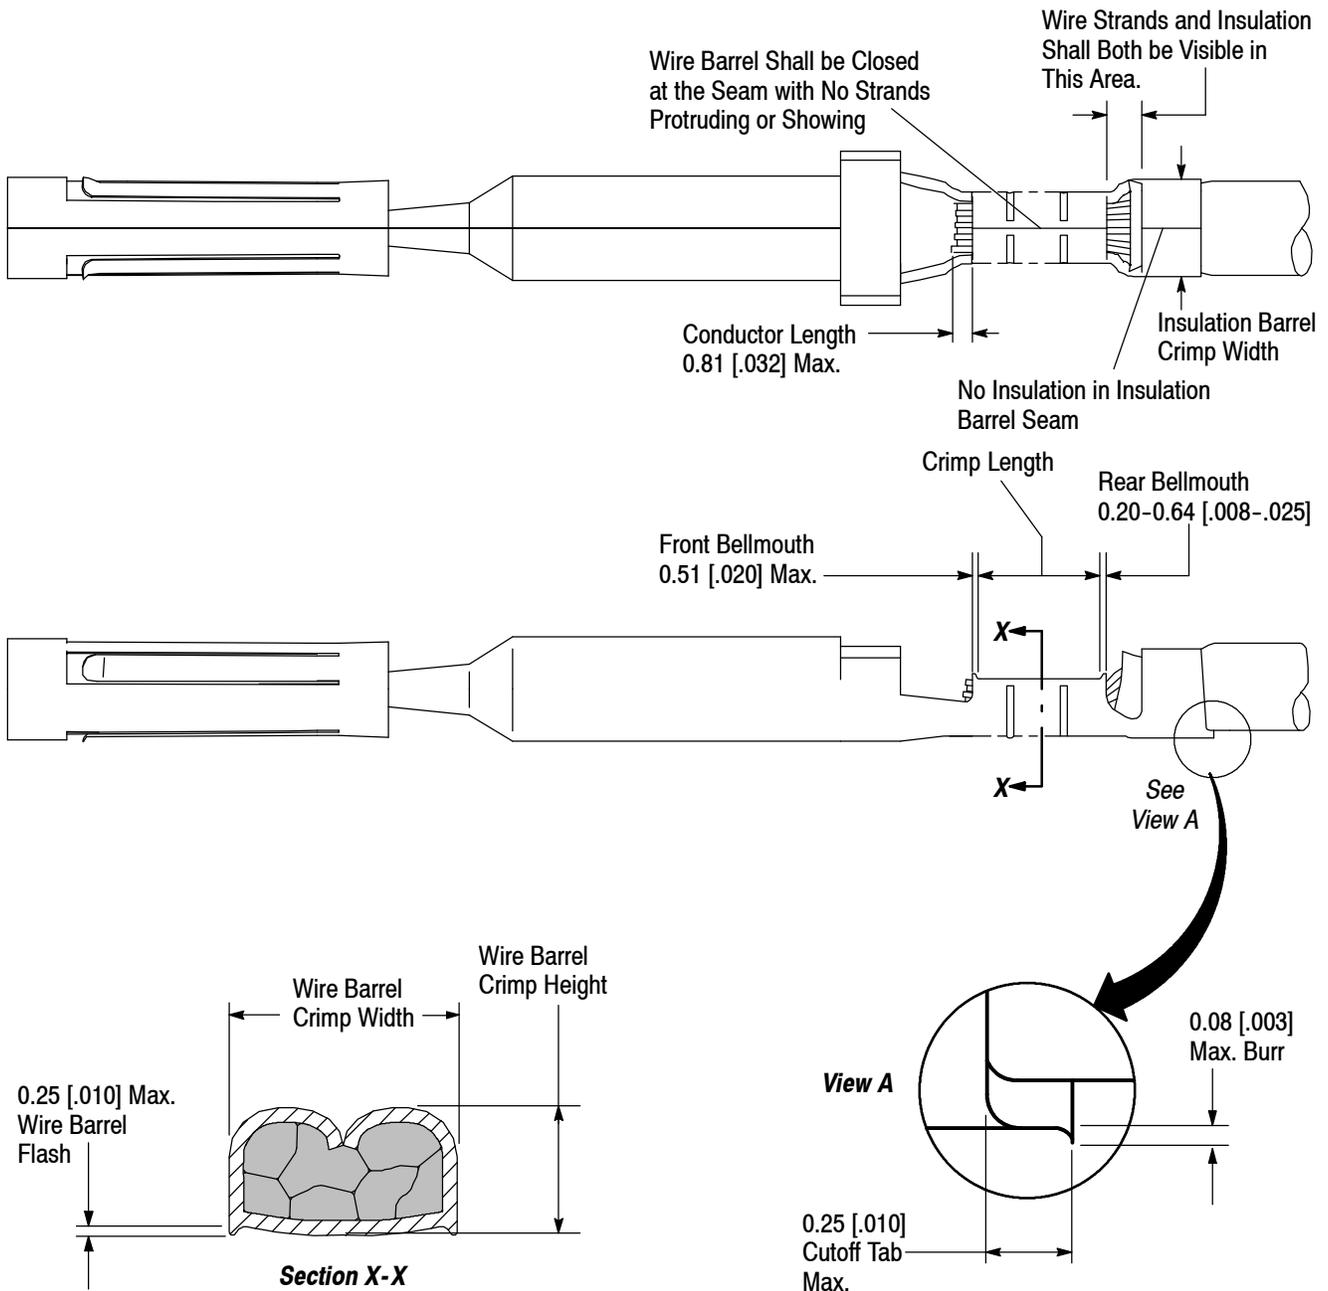

Figure 3
The contact must be crimped onto the wire according to instructions packaged with applicable tooling. After crimping, the contact should appear as shown in Figure 3.
For optimum crimp effectiveness, the crimp must be within the area shown in Figure 3 and must meet the crimp dimensions provided in Figure 2. Effective crimp length shall be defined as that portion of the wire
Front and rear bellmouths shall be evident and conform to the dimensions given in Figure 3.
The cutoff tab shall be cut to the dimensions shown in Figure 3.
The cutoff burr shall not exceed the dimensions shown in Figure 3.
The wire barrel flash shall not exceed the dimensions shown in Figure 3, Section X-X.
The insulation barrel shall grip the insulation firmly. A slight cut in the insulation by the insulation barrel is permissible as this causes no problems in actual use. Insulation crimp shall comply to width and height provided in Figure 3.
The wire conductor and insulation must be visible in the transition area between the wire and insulation barrels as shown in Figure 3.
The conductor may extend beyond the wire barrel to the maximum shown in Figure 3.
The wire barrel seam must be closed with no evidence of loose wire strands visible in the seam as shown in Figure 3.
1. The carrier cutoff tab length shall not exceed the dimensions given in Figure 3.